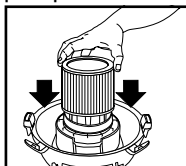

FIGURE 14
21. With the tank cover in an upside down position, slide the cartridge filter down over the lid cage, pushing until the filter seals against the cover. **FIGURE 14.**